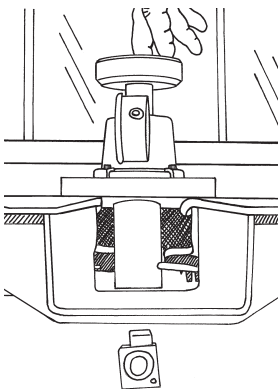

FIGURE 2
- With the locator pin in place, your scale should be in the exact same position of the kingpin when your trailer is hooked up (See Figure 2).